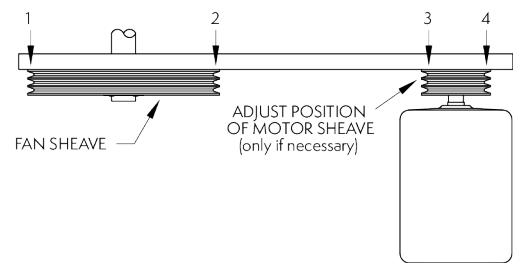

Figure 17 - Sheave Alignment Check
9. As a final check, lay a straight edge from sheave to sheave. There should be four point contact (See **Figure 17**). Adjust the position of the motor sheave as necessary.